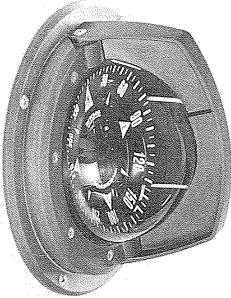

Figure 7
**The Compass.** See figure 7.